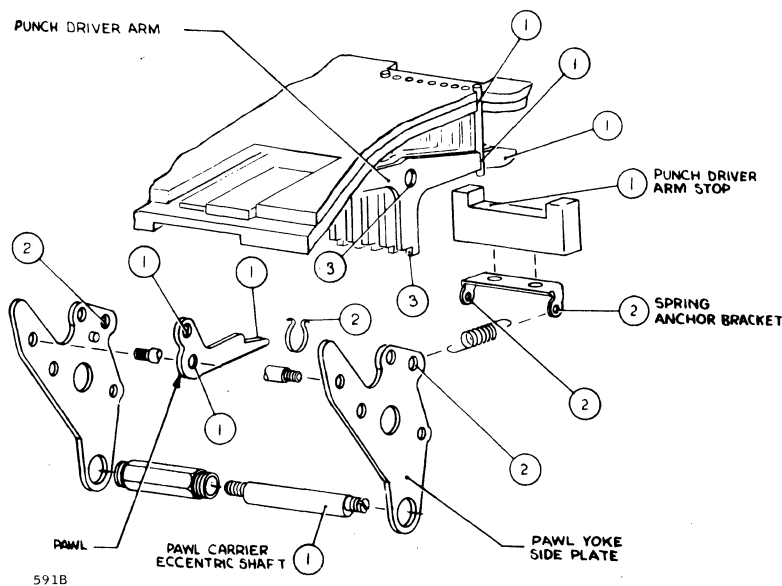

Figure 4-3. Pawl and Punch Lubrication Points
2. Pawl and Punch Assembly (figure 4-3)